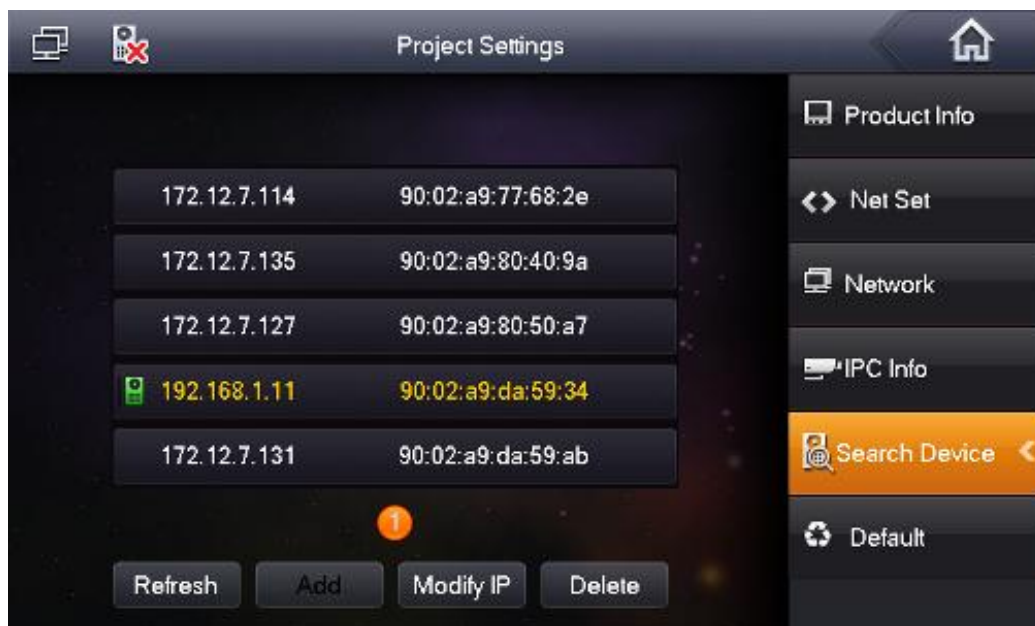

Figure 2-17
- e) Now you can see the following interface. See Figure 2-17.